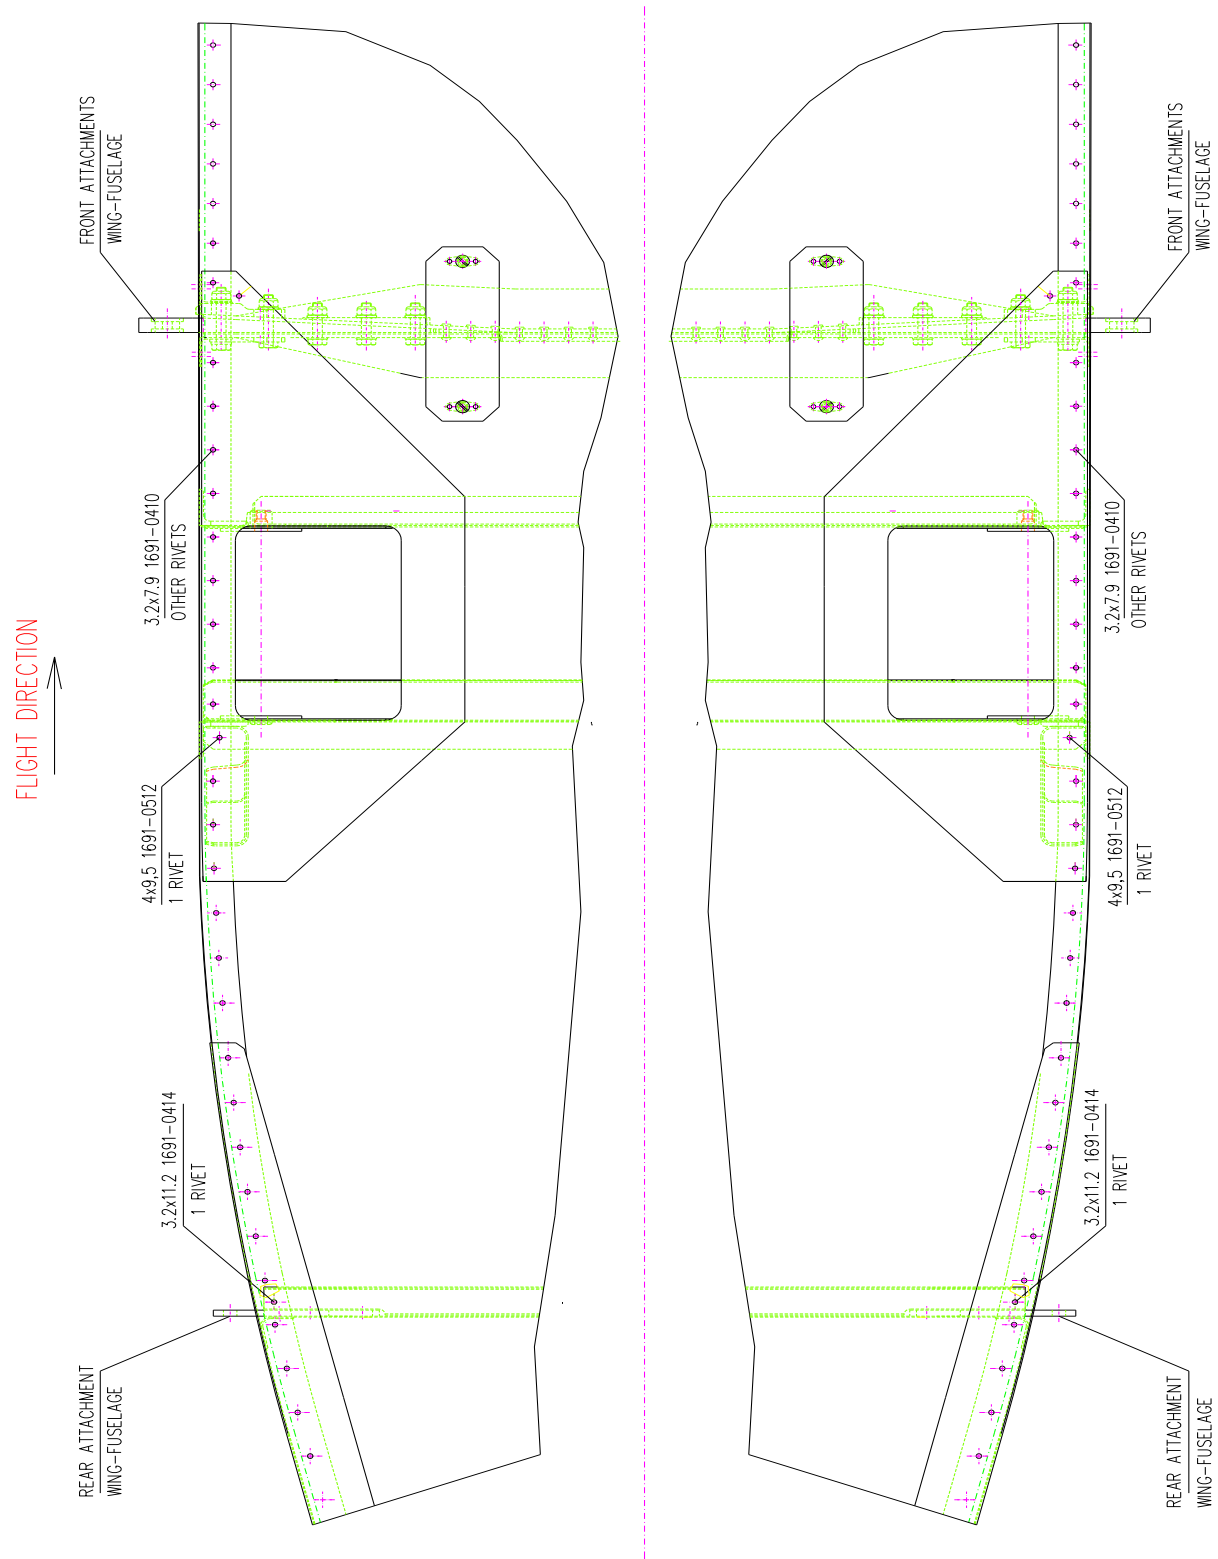

Fig.6 View of the rivets on the lower side of the fuselage
- Clinch the rivet, mentioned in Fig.6, in the hole.